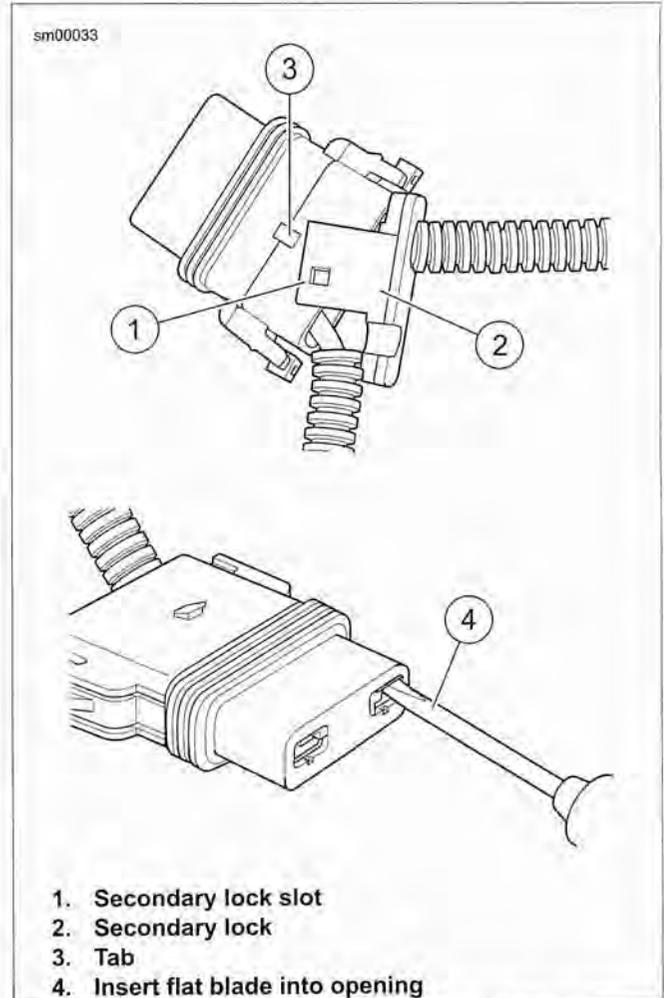

Figure A-11. Delphi 800 Metri-Pack Sealed Main Fuse Housing: Remove Socket Terminals
2. See Figure A-11. Disengage slots (1) on secondary lock (2) from tabs (3) and remove secondary lock.
3. Insert flat blade of pick or small screwdriver into opening (4) until it stops.